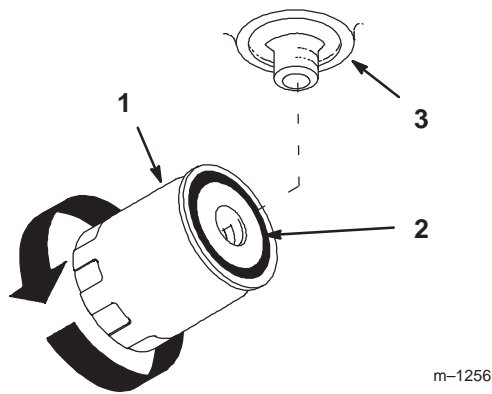

Figure 46
4. Apply a thin coat hydro fluid to the rubber gasket on the replacement filter (Fig. 46).
7. When fluid overflows filter turn the oil filter clockwise until the rubber gasket contacts the filter adapter, then tighten the filter an additional 1/2 turn (Fig. 46).